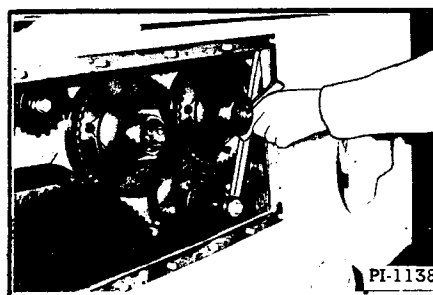

Fig. 26 Checking Sprocket Alignment
- 11. With a straightedge, check the alignment of the upper jackshaft sprocket with the outside clutch sprockets (Figure 26).
12. With the directional control lever in neutral, check the alignment of the upper jackshaft sprocket with the rear outside clutch sprockets (Figure 26).